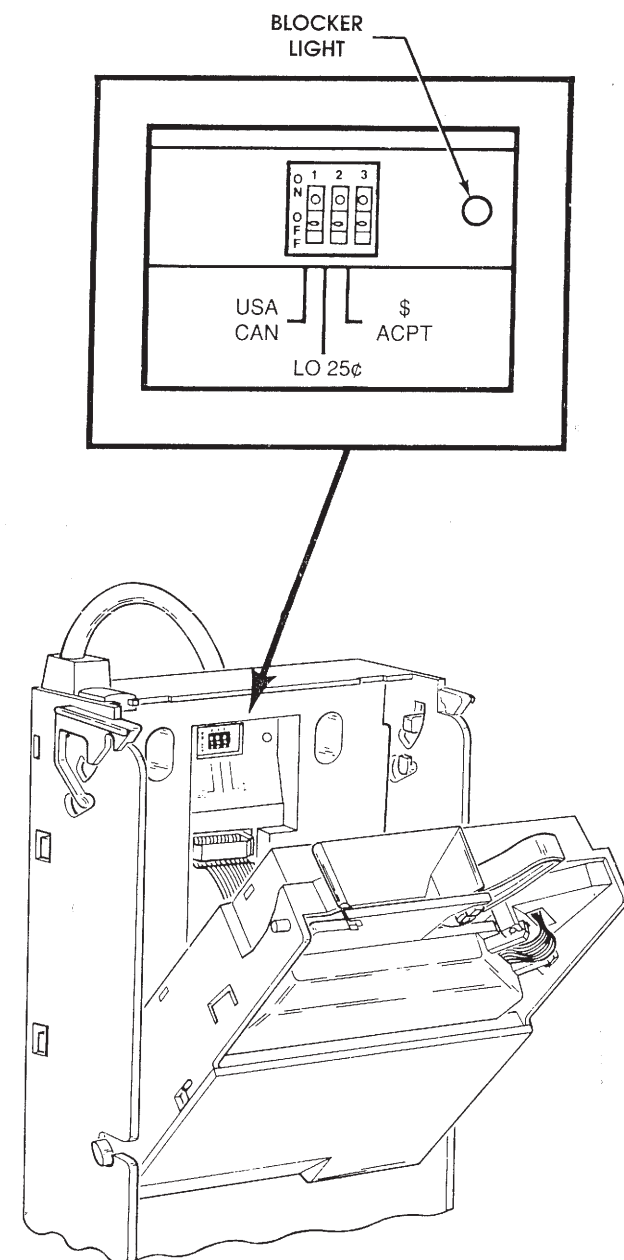

Figure 13
2. Remove the coin acceptor (upper section) portion of the coin mechanism. See Figure 13.